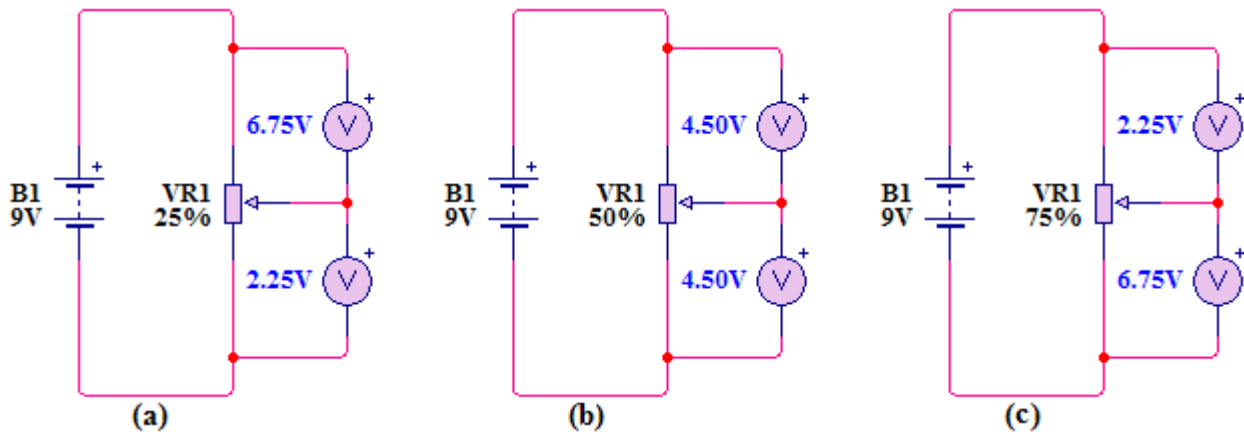

Figure 2-30: Potentiometer used as voltage divider; (a) Quarter turn, (b) Half turn, (c) Three-quarter turn
1. The figure 2-30 part (a) through part (c) shows what happens when a wiper contact (3) is moved.
2. In figure 2-30 part (b) the wiper is exactly centered, making the two resistances equal. If you measure voltage across terminal 3 to 2 as indicated, you have one-half of the total source voltage; that is 4.5V.
3. When the wiper is moved up from the center position, in figure 2-30 part (c), the resistance between terminals 3 and 2 increases and the voltage across it increases proportionally. For this example the wiper is at 75%. Thus, the voltage between terminal 3 and 2 is 6.75V with respect to the ground, exactly 75% of 9V the supply voltage.
4. When the wiper is moved down from the center position, as in figure 2-30 part (a), the resistance between terminal 3 and 2 decreases and the voltage decreases proportionally. For this example the wiper is at 25%. Therefore, the voltage between terminal 3 and 2 is 2.25V with respect to ground. This corresponds to 25% of the supply voltage, i.e. 9V.